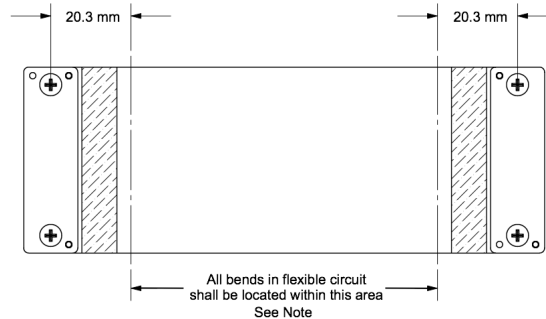

Figure 4-7. Flex Cable Diagram
- Bending the cable outside the area identified in Figure 4-7 (within 20.3mm of connector plate centers).